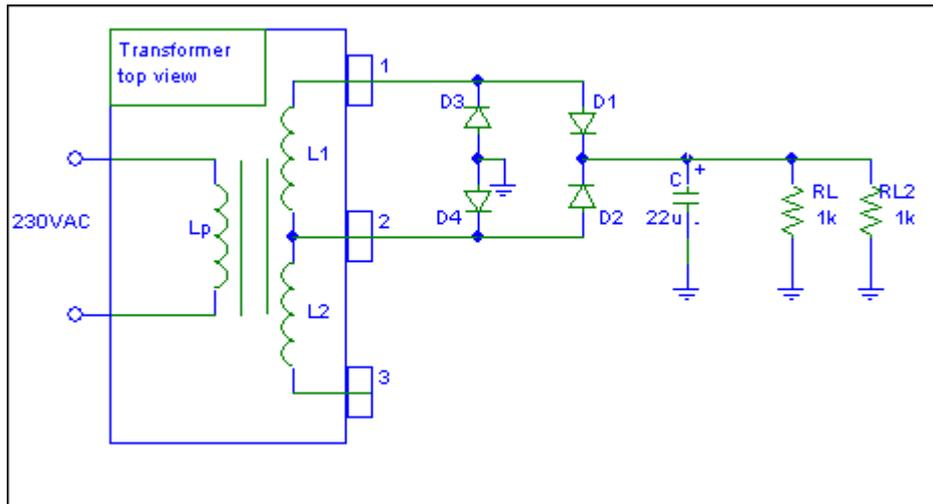

Fig. 5 Diode-bridge full-wave rectifier with smoothing capacitor with increased load.
4. Increase load by adding second $1\text{k}\Omega$ load resistor $RL2$ as in fig. 5 and repeat points 2-4.